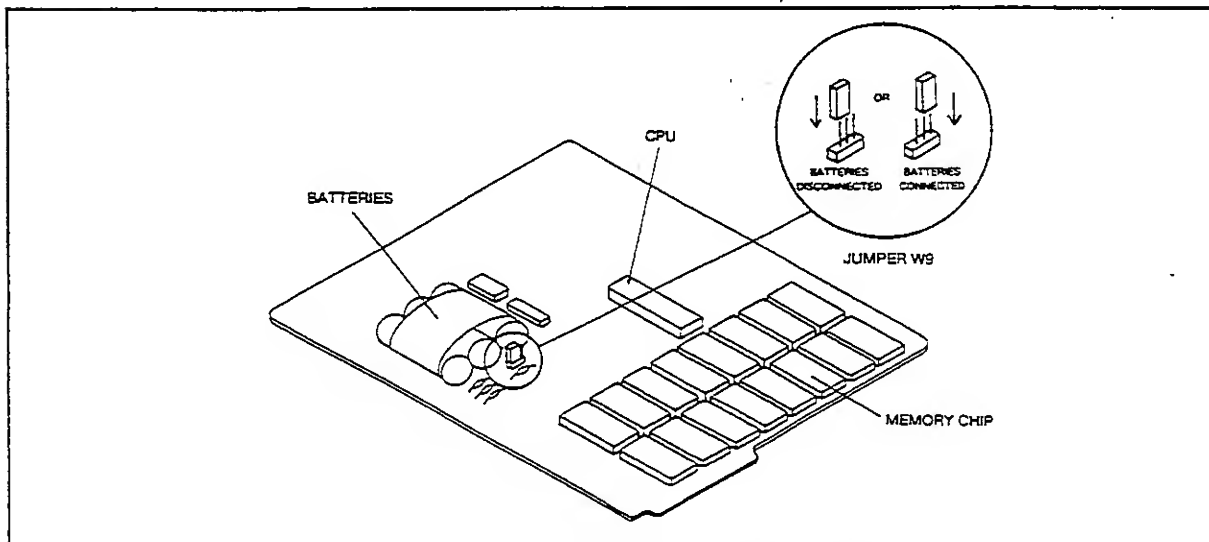

Figure 4-5. W9 Battery Power Jumper
Before cleaning or servicing the Computer Interface Assembly, disconnect back-up battery power by moving the W9 jumper as shown in Figure 4-5.
3. Place jumper W9, shown in Figure 4-5, in the "batteries disconnected" position.